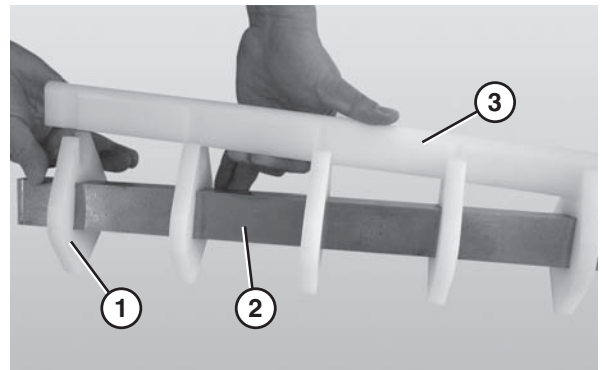

Figure 63
- Remove the nose bar wear strip (**Figure 63, item 3**).
- Slide the nose bar pucks (**Figure 63, item 1**) off the nose bar shaft (**Figure 63, item 2**).